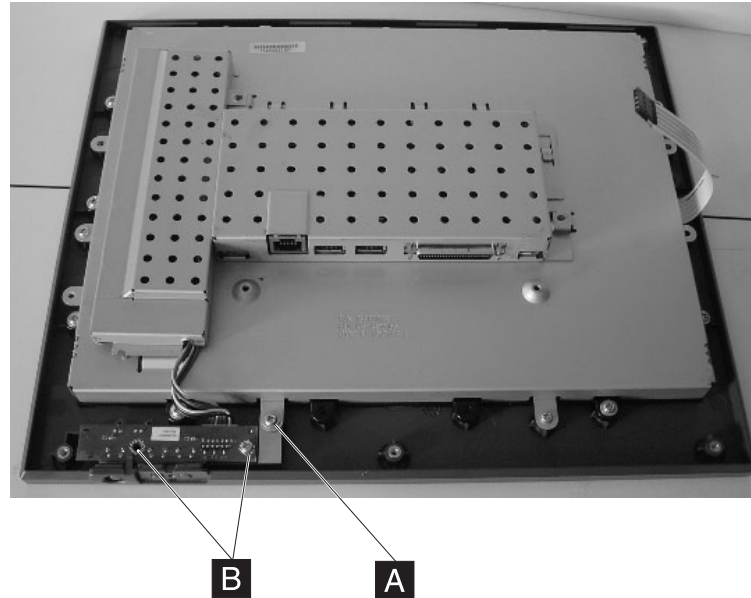

Figure 42. Removing the control card
3. Remove the screws securing the control (button) card ( **B** in Figure 42).
2. Remove the screw holding the control card EMC shield ( **A** in Figure 42).
4. Remove the EMC shields covering the backlight card and the tablet touch card. See Figure 42 on page 57.